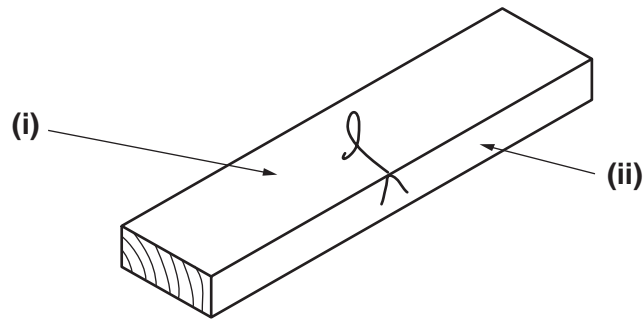

Fig. 1
- 1 (a) Fig. 1 shows two marks used to identify datum surfaces when preparing wood to size.